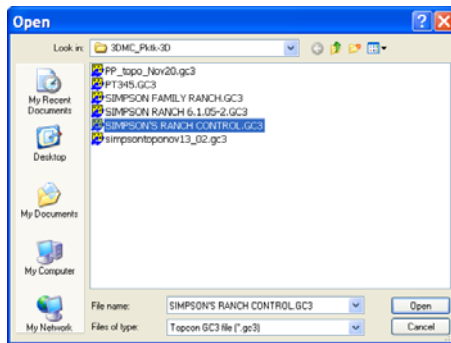

Figure 2-2. Open 3D Control Point File
2. On the *Open* dialog box, navigate to the location of the desired file, select it, and click **Open** (Figure 2-2). The information from the selected file is added to the 3D Project file.